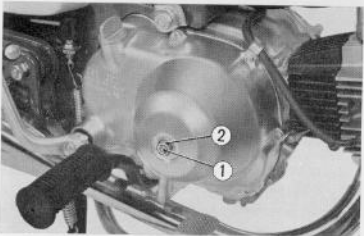

Fig. 5.19 Adjusting the clutch
The clutch adjustment is made at the clutch adjusting screw. ① (Fig. 5.19)
1. Loosen the lock nut ② and turn the adjusting screw ① to the left, using a screwdriver, until the turning becomes hard and then turn in the opposite direction about $\frac{1}{8}$ turn and tighten the lock nut. This should provide the proper automatic operation. (Fig. 5.19)